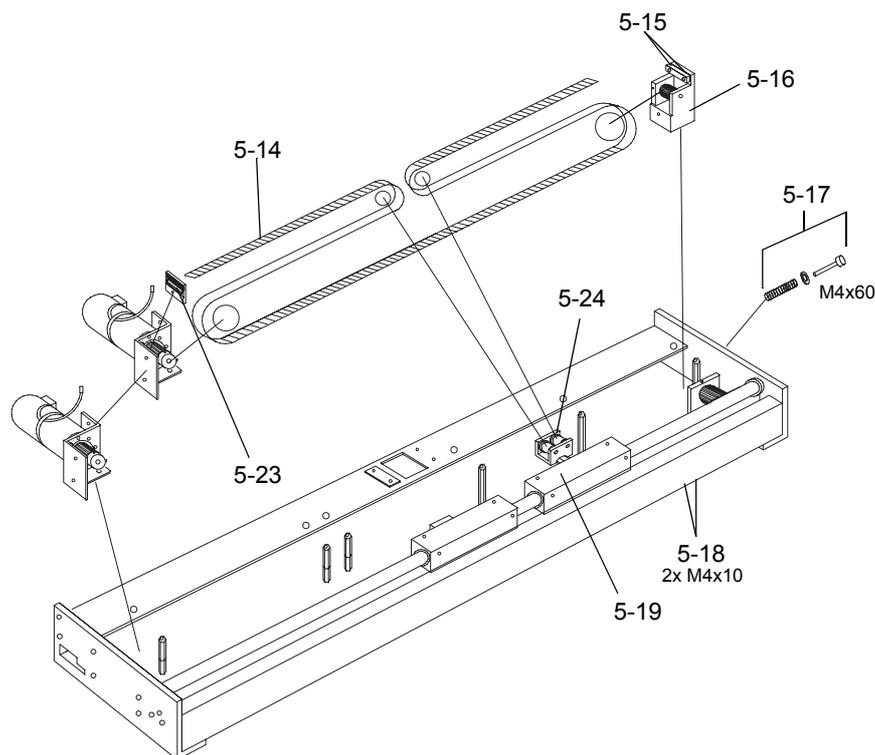

Figure 6-10 Installing X-belt RoMa
- 4 Fix one end of the X-belt (5-14) in the belt lock (5-23), then lead it over the pulleys as shown in Figure 6-10. Insert the other belt end in the belt take-up (5-16) and fasten the fixing screws (5-15).